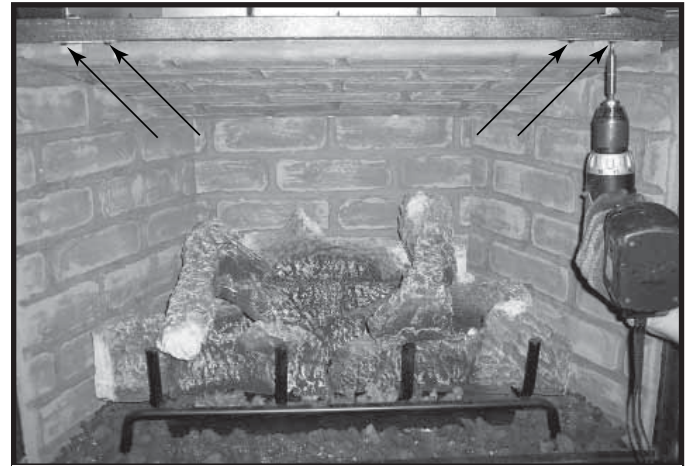

Figure 7.8 Remove Refractory Retainers
1. Remove the screws holding the refractory retainers in place. See Figure 7.8.